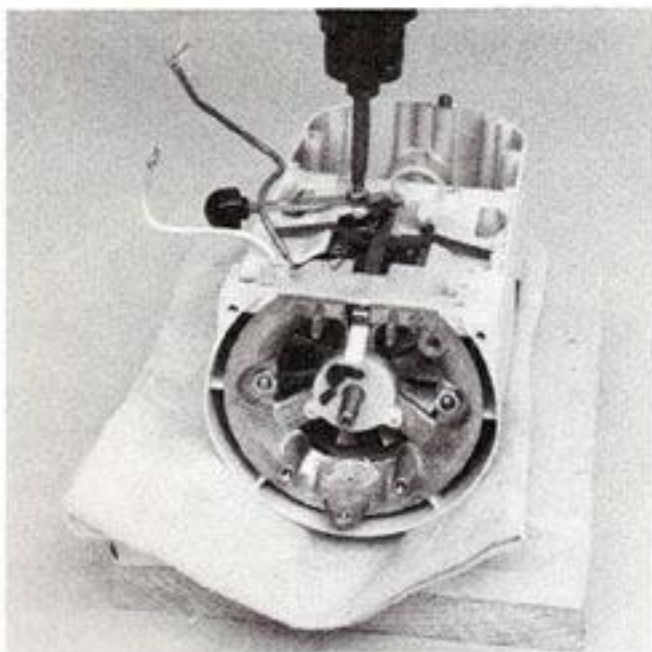
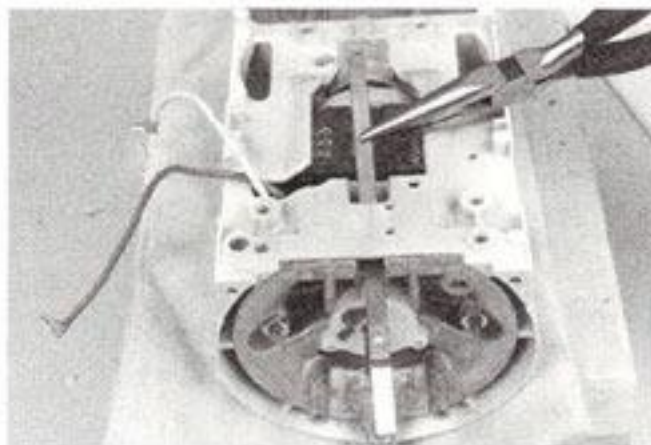

Fig. 24
Fig. 26
- D. To remove the speed control link and cam assembly, take out the pivot screw and tension washer (Fig. 24 & 25). The speed control link and cam assembly can be removed by pulling it out at the gear case and motor housing (Fig. 26). Before pulling it out, remove the flat spring.